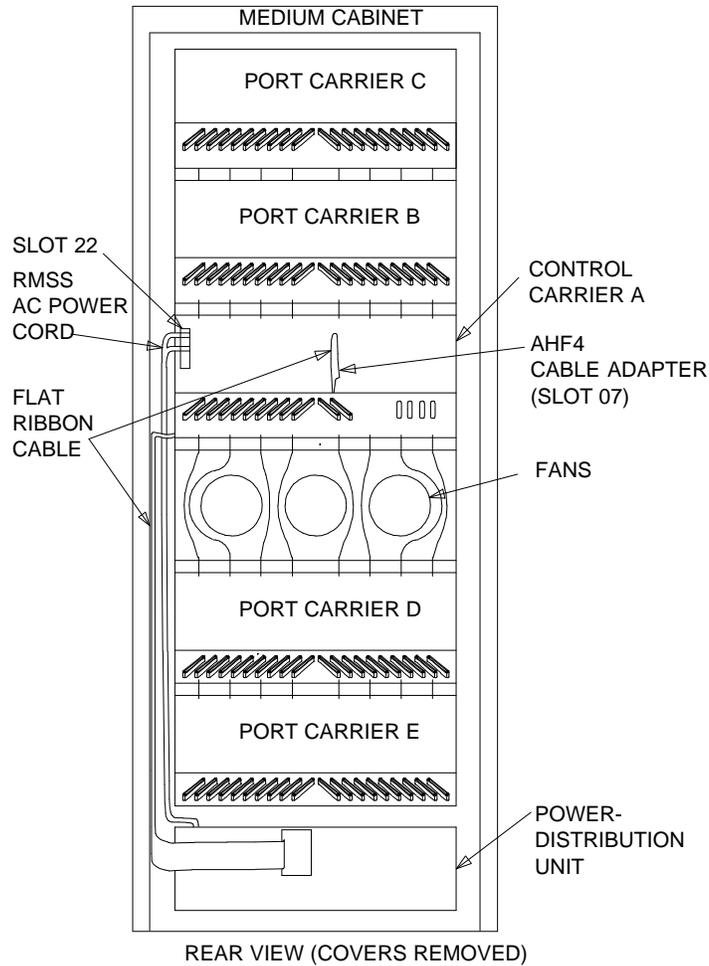

Figure 3-12. R1V3 System Cabinet
2. Disconnect the AHF4 cable adapter from behind slot "07" of control carrier "A" (see Figure 3-12).